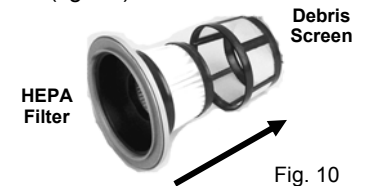

Fig. 10
5. Separate the debris screen from the HEPA filter cartridge by grasping the debris screen with one hand and the filter frame with the other and pull apart. (fig. 10)